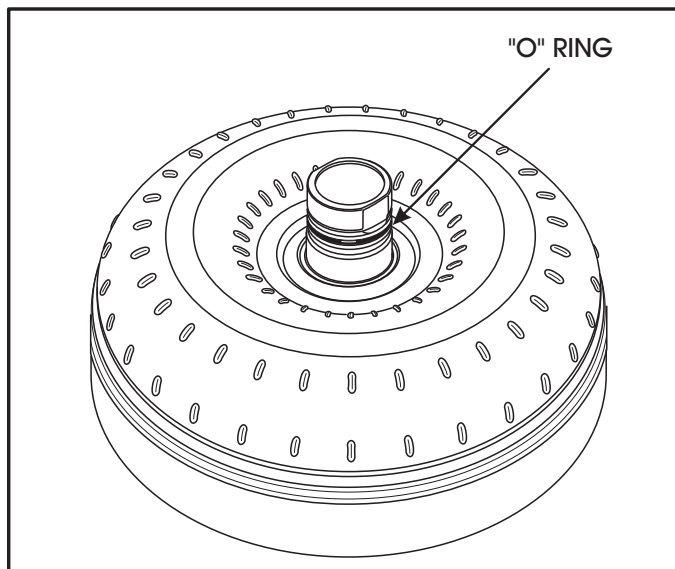

Figure 27
3. Remove the torque converter from the transmission, remove and discard the "O" ring from the converter hub (See Figure 27).